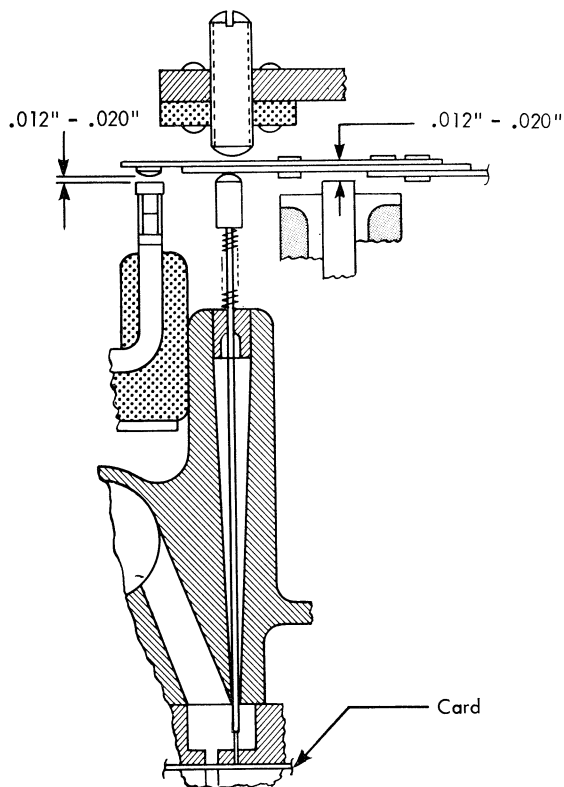

Figure 12-8. Pin-Sense Unit — Blank Card
7. Check for a clearance of 0.012" between the armature and the core (Figure 12-8). Use three strips of card cut to approximately 1/8 inch as a gage. Two strips should go with no drag; three strips should have a slight drag. Loosen the four mounting screws, and shift the magnet to obtain this adjustment. If the magnet location is changed, recheck both the 12- and the 9-ends. It is possible to check the 12-end through the print-unit area.
8. Check for 0.012" to 0.020" air gap on all contacts (Figure 12-8). Two cards cause no drag; three cards cause slight drag. Loosen the two mounting screws and shift the contact molding assembly to accomplish this adjustment.